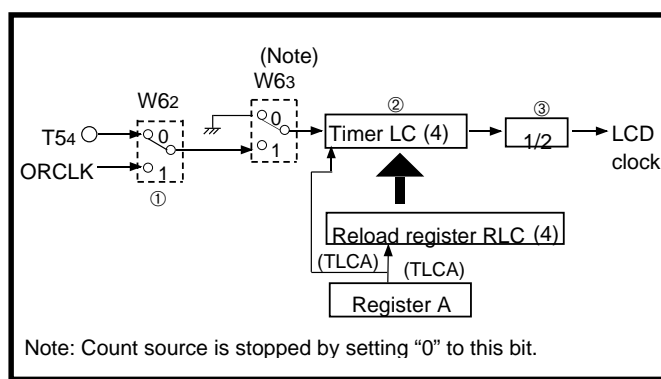

Fig. 2.6.1 LCD clock control circuit structure
(2) LCD drive timing
The LCD clock frequency (F) and frame frequency generating the LCD drive timing are shown below. Figure 2.6.1 shows the structure of the LCD clock circuit.